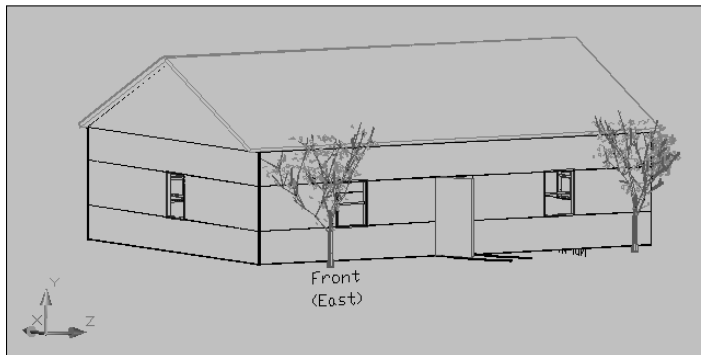

**Figure 22-6:** The final view of the house.
15. Choose View ⇨ Named Views. Click the New button. In the New View dialog box, type the name of the view, **walk up**. Click OK. Click OK again to return to your drawing. It should look like Figure 22-6.